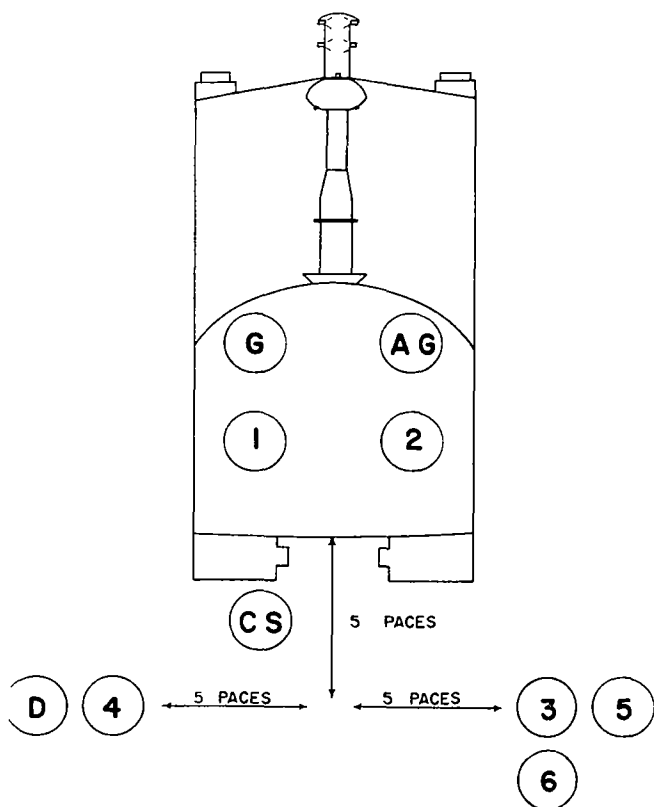

Figure 7. Posts, prepared for action.
(3) Figure 7, prepared for action.
(1) The command may be given with the howitzer in position or approaching the position.
(2) Duties of individuals are given in table I.
(3) Each man takes his post (fig. 7) when he has completed his duties.